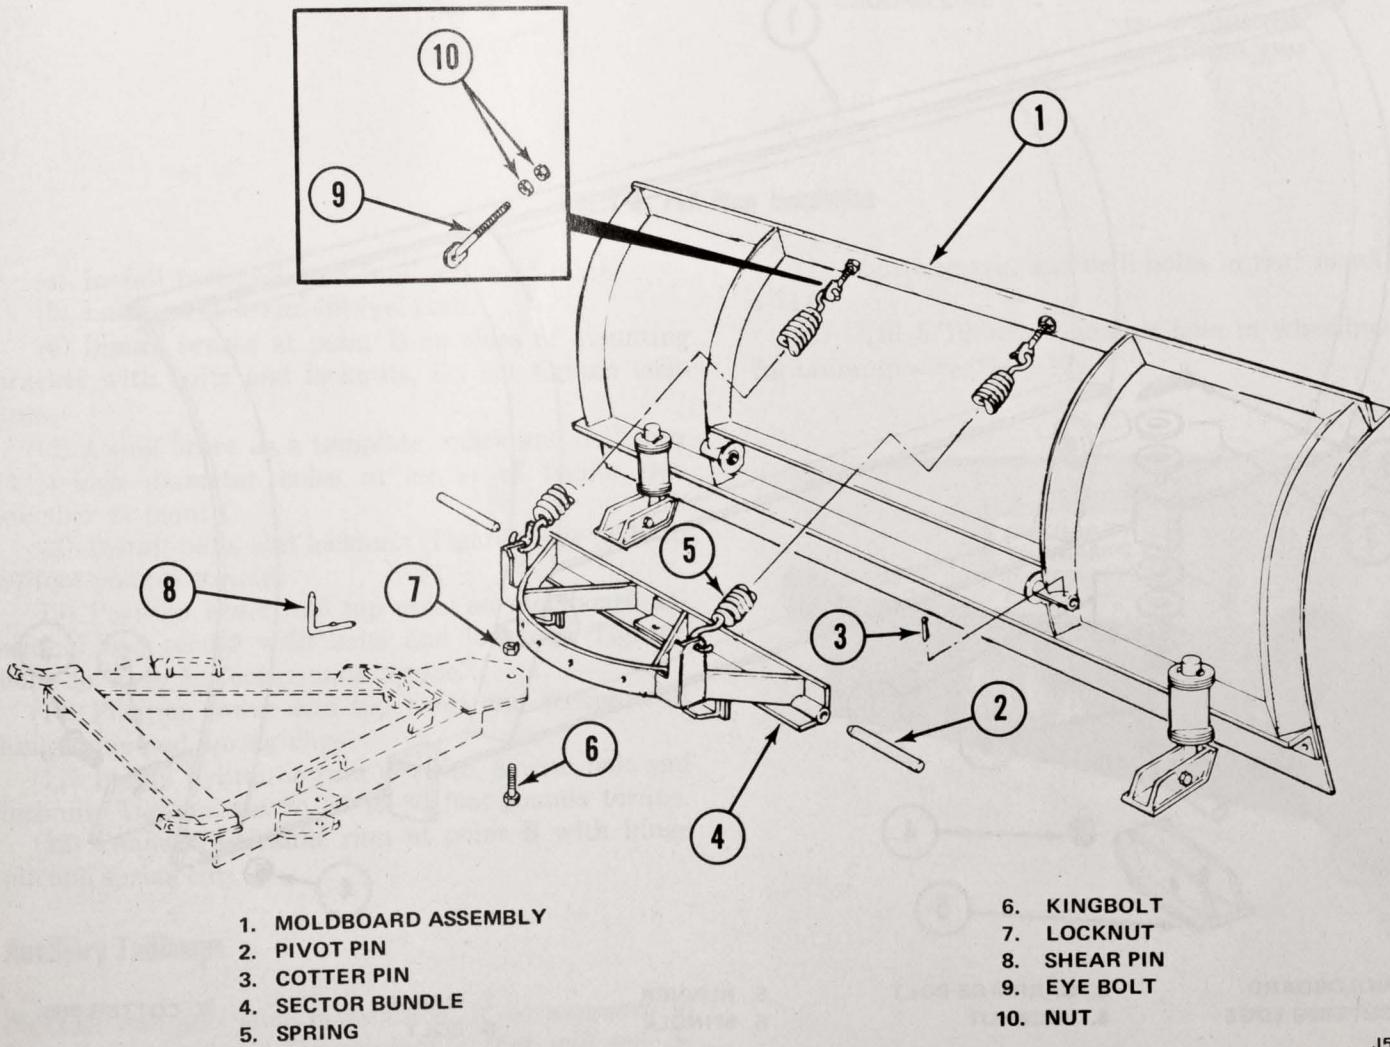

Fig. 1-6 Moldboard and Sector Bundle - Components and Installation
(1) Attach sector bundle to moldboard assembly with pivot pins and cotter pins (fig. 1-6).